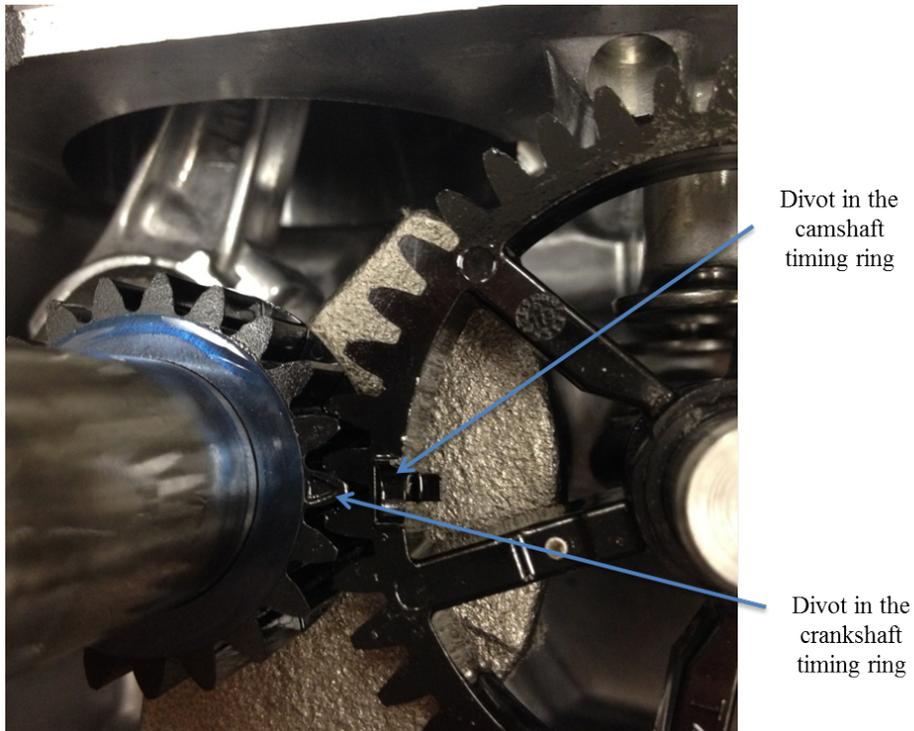

Figure 8: crankshaft timing ring aligned with camshaft timing ring
7. Insert the camshaft so that the indentation between two of the camshaft timing ring teeth straddle the indentation on the crankshaft timing ring. See Figure 8.